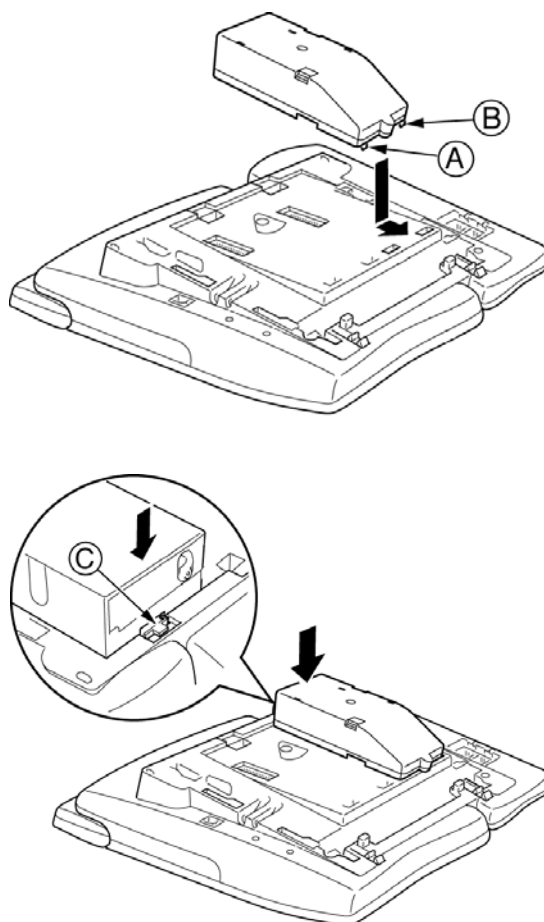

Figure 5-21: Attaching the CT(U)-R() Unit to the Multiline Terminal
2. Plug the tabs marked **A** and **B** into adapter slots, then snap the tab on the other end of the adapter into the receptacle marked **C**. Refer to *Figure 5-21: Attaching the CT(U)-R() Unit to the Multiline Terminal*.